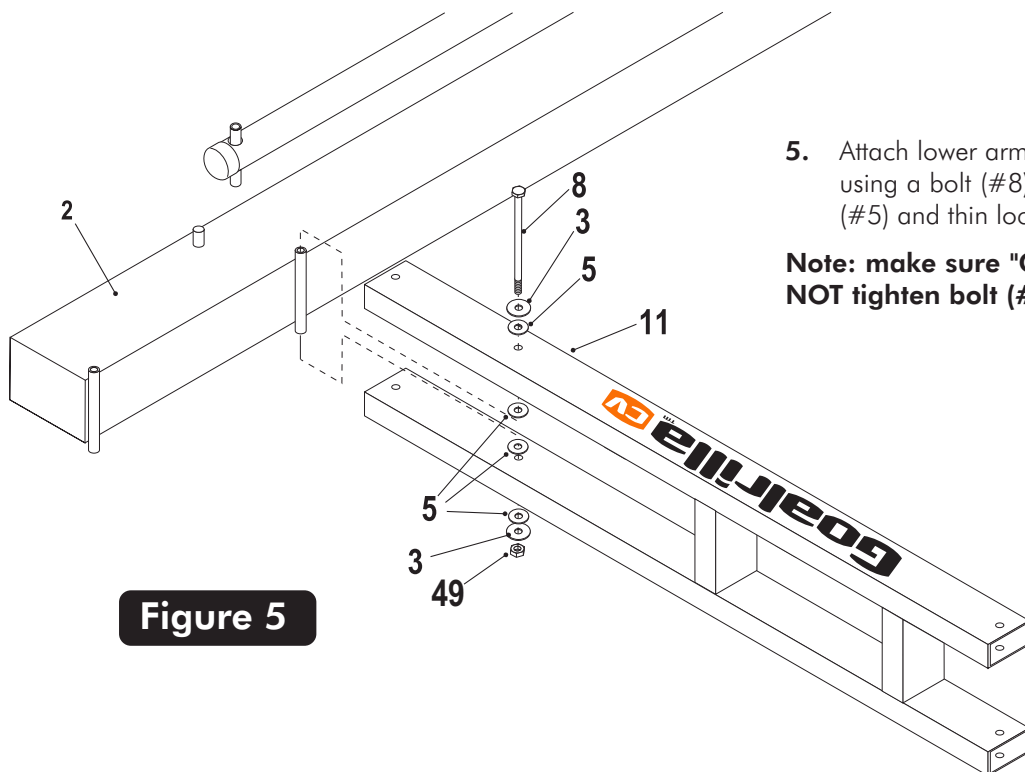

Figure 5
5. Attach lower arm (#11) to Pole (#2), as shown in Figure 5, using a bolt (#8), two flatwashers (#3), four plastic washers (#5) and thin locknut (#49).